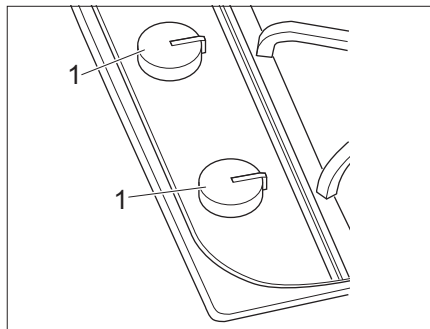

Fig. 125 Operating controls for gas cooker
- Turn the control knob (Fig. 125,1) on the burner you wish to use to the ignition position (large flame).